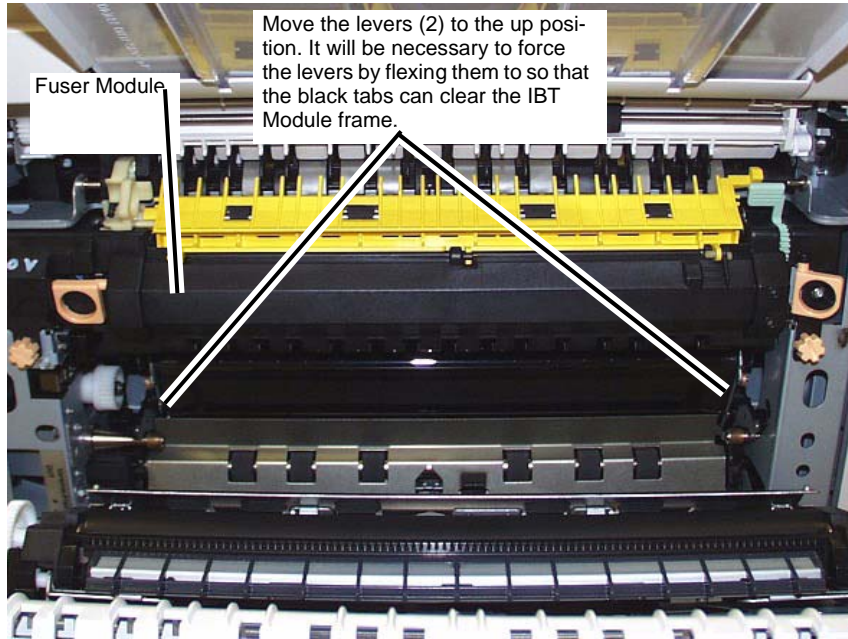

Figure 6 Moving the levers (2) to the retracted position
10. Open the left side door and position the levers (2) to the up or retract position. (Figure 6)